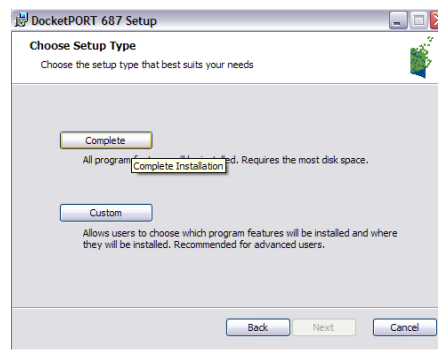

Fig. 4
- f) Follow the on-screen step-by-step setup instruction to complete the installation (Fig. 4) above.